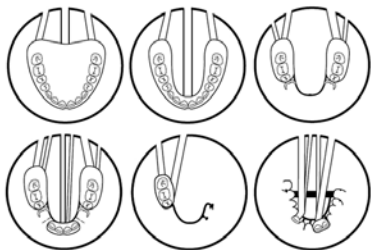

Figure 1. Spruing Techniques
a. Create or place sprue holes in the hydrocolloid or silicone mold as shown in Figure 1.